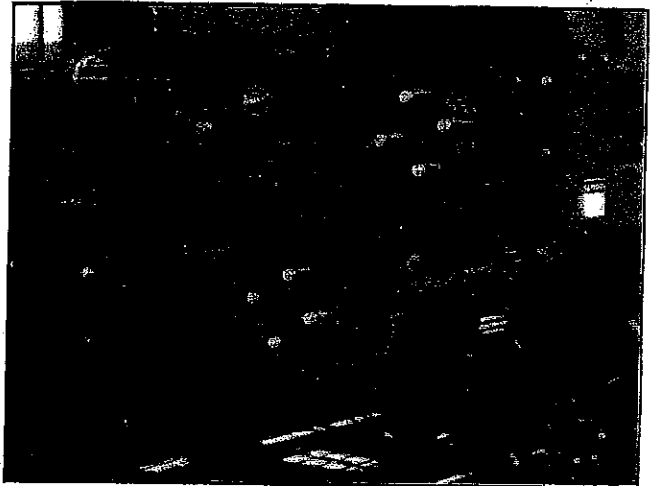

FIGURE 21 - RIGHT HAND DRIVES
The paddle shaft is protected by a slip clutch (A) (see Figure 21). The four (4) springs (B) set the tension of this clutch. The setting recommended is 2-3/8" actual length of springs. Be sure all four springs are the same length. *Keep jaws free of grease.*
The wheel elevator is protected by a slip clutch (C) (see Figure 21, page 17). The four (4) springs (D) set the tension of this clutch. The setting recommended is 2-3/8" actual length of springs. Be sure all four (4) springs are the same length. *Keep jaws free of grease.*